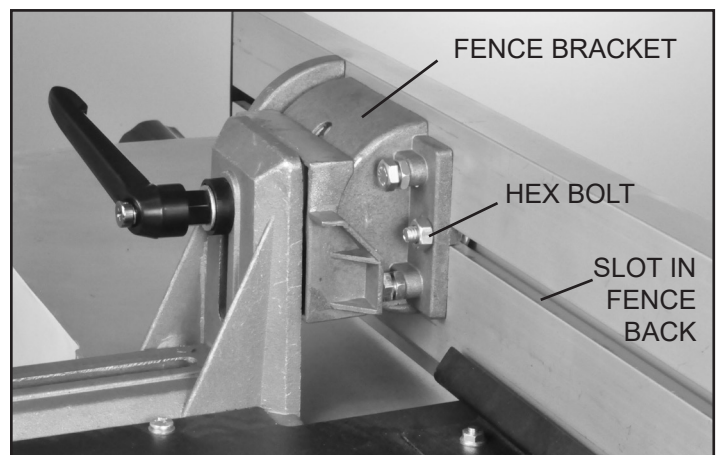

FIG. 21
1. On the rear of the fence, loosen the two hex Bolts which attach the Fence Bracket to the Fence through the long center slot in the fence rear. FIG. 21.